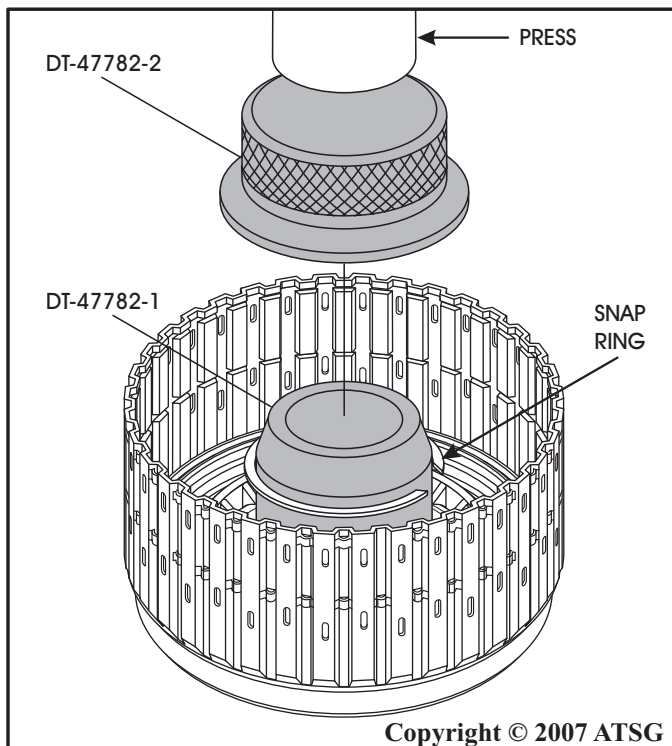

Figure 96
15. Before using the snap ring installer, push the snap ring over the cone by hand, so that the snap ring is positioned below the tapered area, as shown in Figure 96.